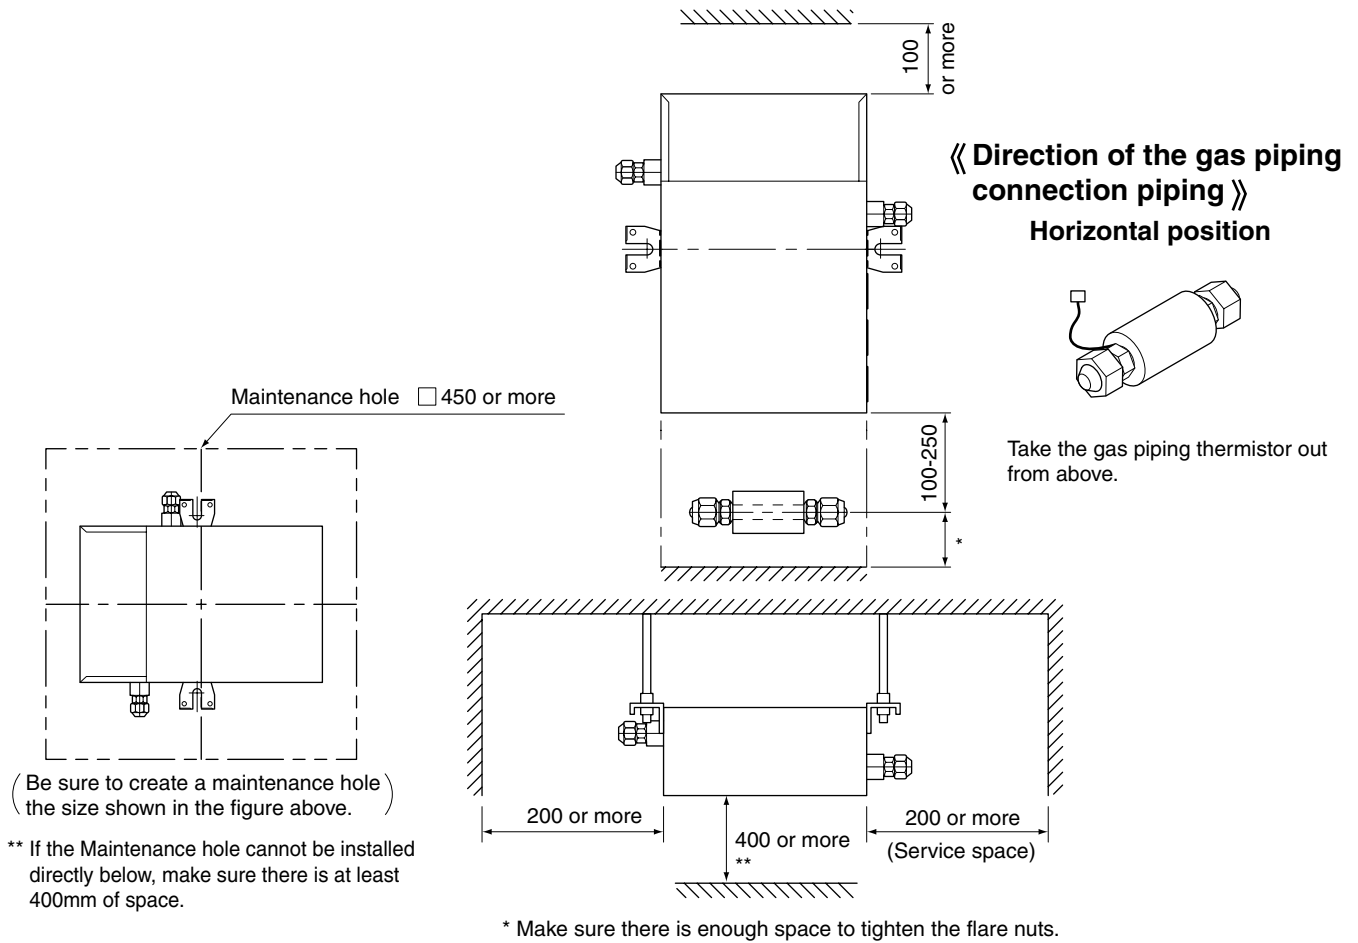

Fig. 1
- (1) Select an installation site where the following conditions are fulfilled and that meets your customer’s approval.
- Locations where a maintenance hole can be installed. (Refer to Fig. 1)
- (2) After considering whether the location the unit is to be installed can support its weight, if it seems dangerous, install it after reinforcing the location with boards, crossbeams, etc.
- (3) Install the gas piping connection piping (7) no further than 250mm from the hole for the thermistor on the unit. (Refer to the “8-1 HOW TO CONNECT WIRINGS”)
- (4) Avoid any contact with the ceiling surface, as this may cause noise and vibration.